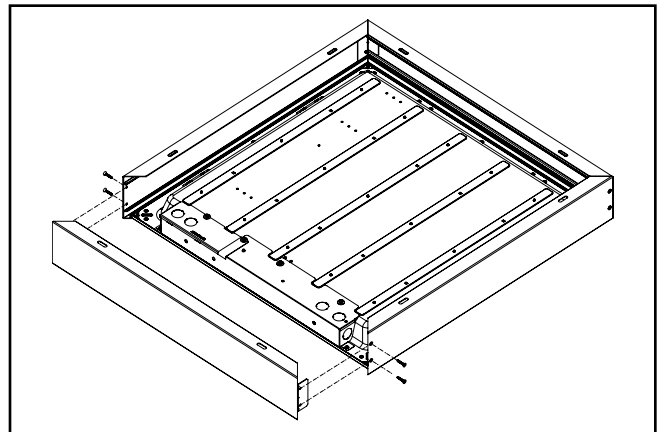

Figure 16.
- C4. Install the remaining type "B" rail, L-brackets and screws. (Figure 16.)